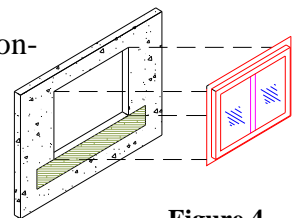

Figure 4
6. Insert the window into the opening (See Fig. 4). Shim with non-porous, non-absorbent, inorganic shims at head and jambs, cross measure and adjust as necessary to achieve a plumb, square and level condition, as well as an even reveal around the frame opening. Ensure that there are no crowns and dips in the head, jambs or sill. Secure the full perimeter of the window with the equivalent of 6d galvanized or corrosion resistant fasteners at 12 inches center. Hinged and pivoted windows require additional fasteners located within 1 inch each side of, and in the same plane as the hinge or pivot. Seal all fastener heads during installation with sealant. In each direction from the corners there must be a fastener within 6 inches, but no closer than 3 inches, to prevent frame distortion or fracture of joint seals.